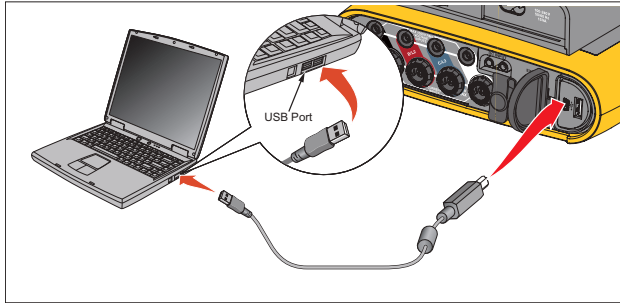

Figure 16. Power Logger to PC Connections
3. Connect the USB cable to the USB ports of the computer and the Logger. See Figure 16.